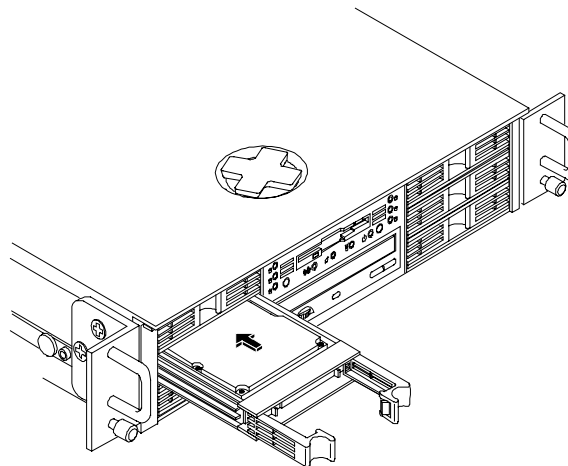

Figure 3-3. Inserting a SCSI Drive
2. Remove the SCSI drive from its protective packaging and open the ejector arms, as shown in Figure 3-3.
3. Slide the SCSI drive into the slot until you feel resistance. Then press in firmly until the drive is fully seated into the connector on the SCSI back plane. See Figure 3-3.